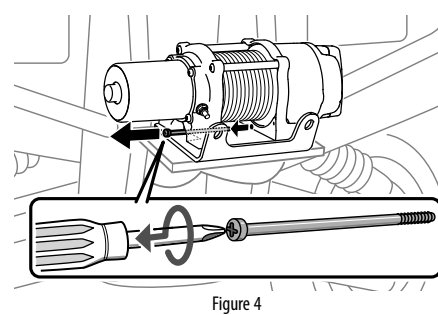

Figure 4
6. Once winch is securely fastened to mount, remove bottom tie bolt (if present). **NOTE: Retain tie bolt for winch service.** Figures 4 and 5.